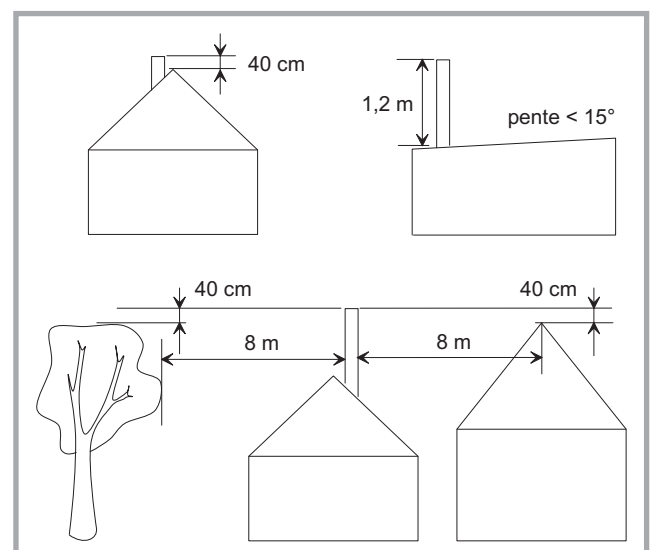

Figure 3 - Flue upper section height
- The chimney must be at least 4.5 m (15 ft) high and be at 40 cm above the ridge of the roof and 8 meters away from any construction (fig. 3).
- In case of a flat roof or when the roof gradient is lower than 15°, the stack must be 1,2 m (4 feet) high at least. (fig. 3)